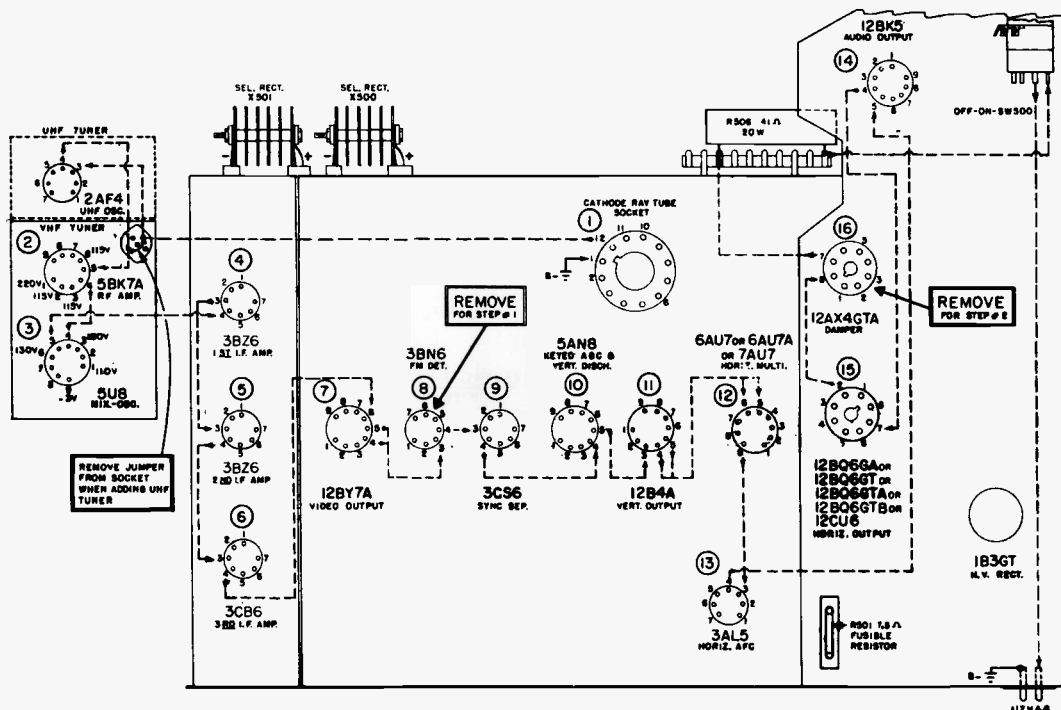

Fig. 11 Top View of Sockets for Heater Check
Fig. 11 can be used as a guide in making these checks.
STEP 1. With the back cover off, remove tube No. 8 (3BN6) and check the tube from pins 3 to 4 for continuity. If the indicator does not light insert a new 3BN6. If the original 3BN6 filament is good, connect the clip lead of the indicator to any convenient point on the chassis (B-) and insert the indicator pin into the Number 4 position of the tube socket No. 8. If the indicator does not light, the open filament lies between tube No. 8 and B- and can be located by checking at successive tube sockets between tube No. 8 and B- in the order shown by the dotted line in Figure 11. If the indicator lights, continuity exists between tube No. 8 and B- and all the tube filaments between these points are good.
No. 16 and tube No. 8 in the order shown by the dotted line in Fig. 11. If the indicator lights, continuity exists between tube No. 16 and tube No. 8.